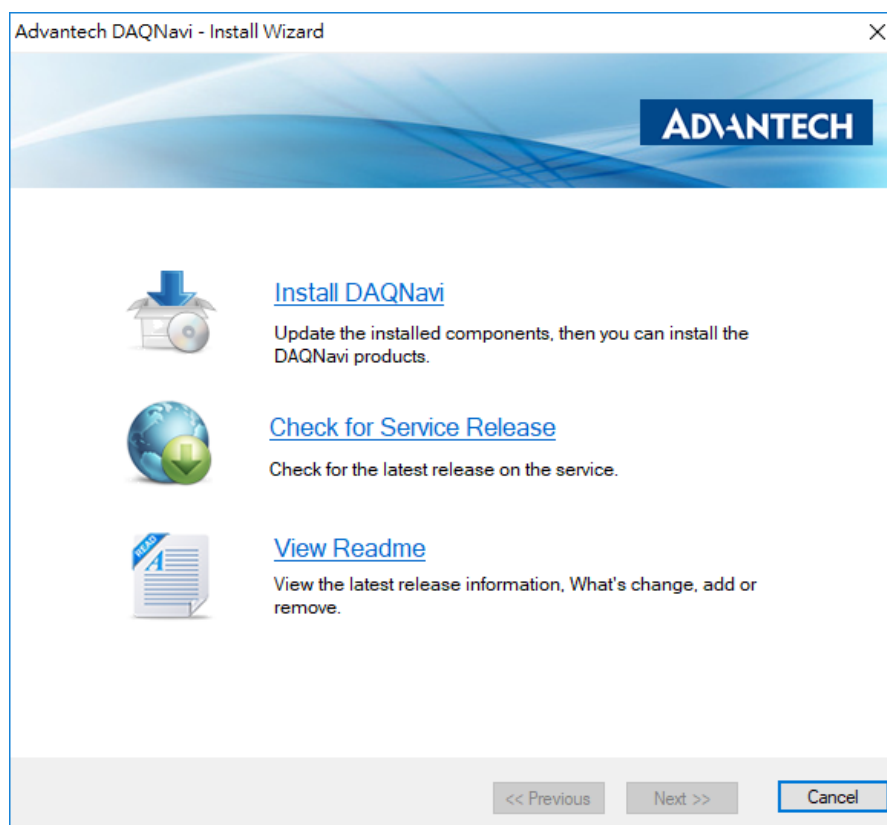

Figure 2.1 Advantech DAQNav i Installation Wizard
2. The Advantech DAQNav i driver installation wizard program should launch automatically. Figures 2.1 to 2.5 show the various pages of the installation wizard interface.